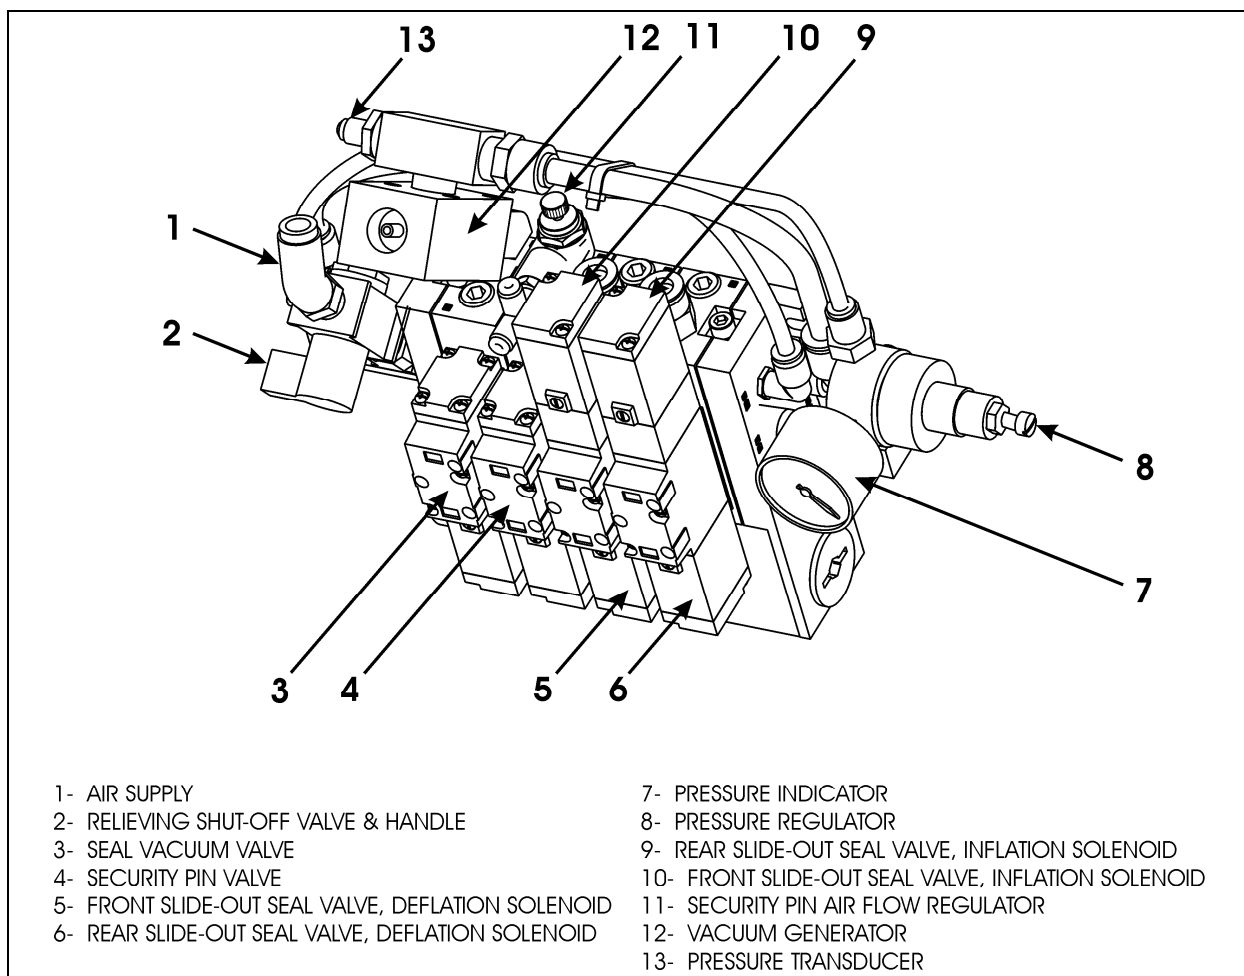

FIGURE 29: PNEUMATIC COMPONENT PANEL
Make sure the inflatable seal is deflated when manually moving the slide-out during service maintenance. Deflate both inflatable seals completely by turning the relief shut-off valve handle clockwise (see FIGURE 29).
2. Manually deflate the seal completely by turning the relieving shut-off valve clockwise (FIGURE 29). Make sure the pressure indicator reading is "0 psi".